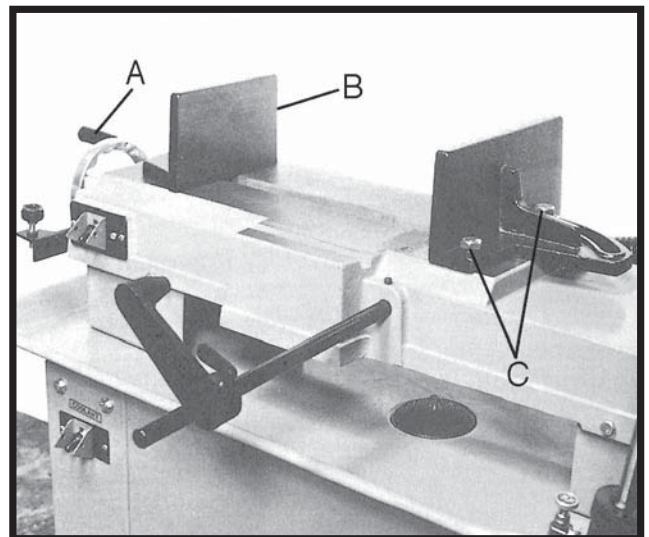

Fig. 9
1. Remove bolt assemblies (C, Fig. 9).
2. Position vise and re-install bolt assemblies as pictured in Fig. 9.